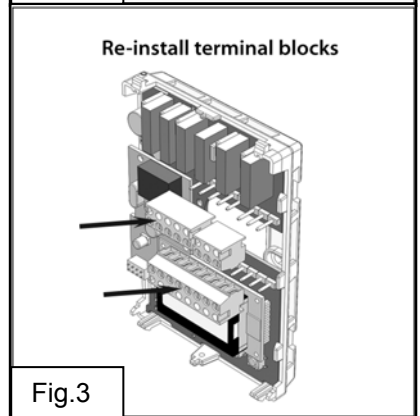

Fig.3
11. Gently push excess wiring back into hole (fig. 3).
12. Re-Install wiring terminals in their correct locations (fig. 3).